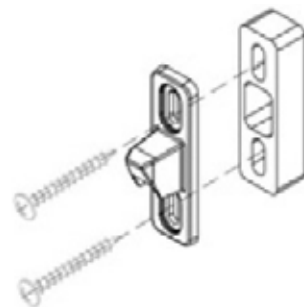

Figure 25
9. The box screen keeper (Item 30) must be installed with the screen spacer (Item 31; Figure 25). Attach the keeper using two screws (Item 44).